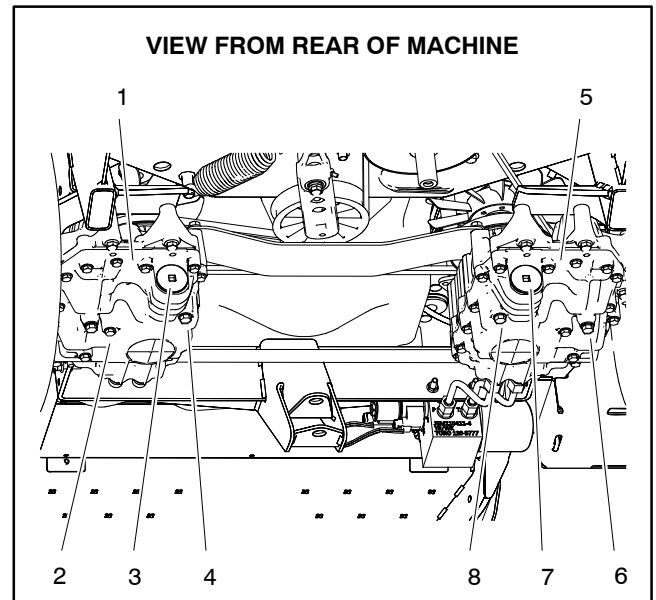

Figure 43
7. Remove two (2) transmission drain plugs (pump side and gear drive) to allow transmission and hydraulic reservoir to drain (Fig. 43).
9. Make sure that two (2) transmission drain plugs (pump side and gear drive side) are properly tightened (Fig. 43).